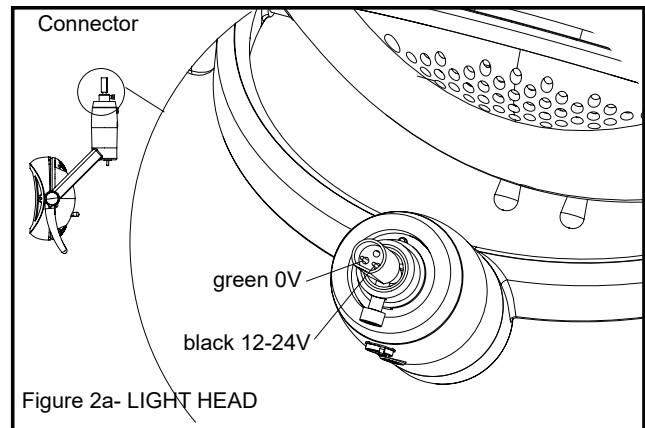

Figure 2a- LIGHT HEAD
### Light head (Fig.2a)
5. (**Fig.2a/b**) connect the male connector placed in the arm to the female connector placed in the light head. Insert the light head pivot in the bend (called light head bend); make sure that the threaded hole of the pivot is in line with the small one on the arm. Place the **M5** screw supplied with the light into the hole and screw it with a tightening torque of (**6 Nm**). Check for stability.